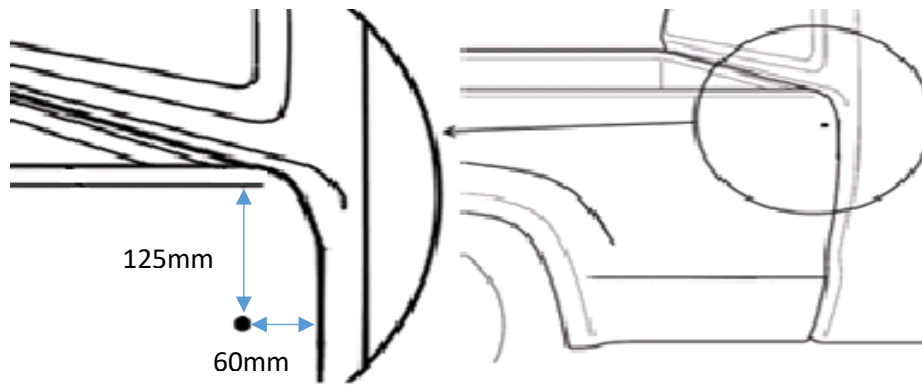

Figure 3.
8. Measure down 125mm from the top of the tub, and back 60mm from the front outside edge of the tub and then mark the position. See **Figure 3** below.